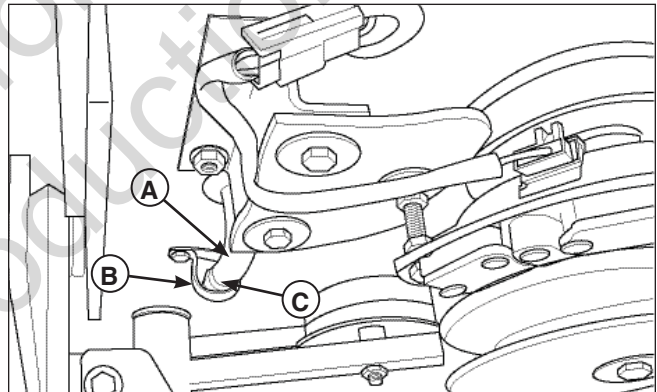

Figure 18. Engine Oil Drain
2. Remove the oil drain hose (**A, Figure 18**) from the cable clamp (**B**) on the right-hand side of the frame and route the hose through hole in the engine deck as shown in **Figure 15**.